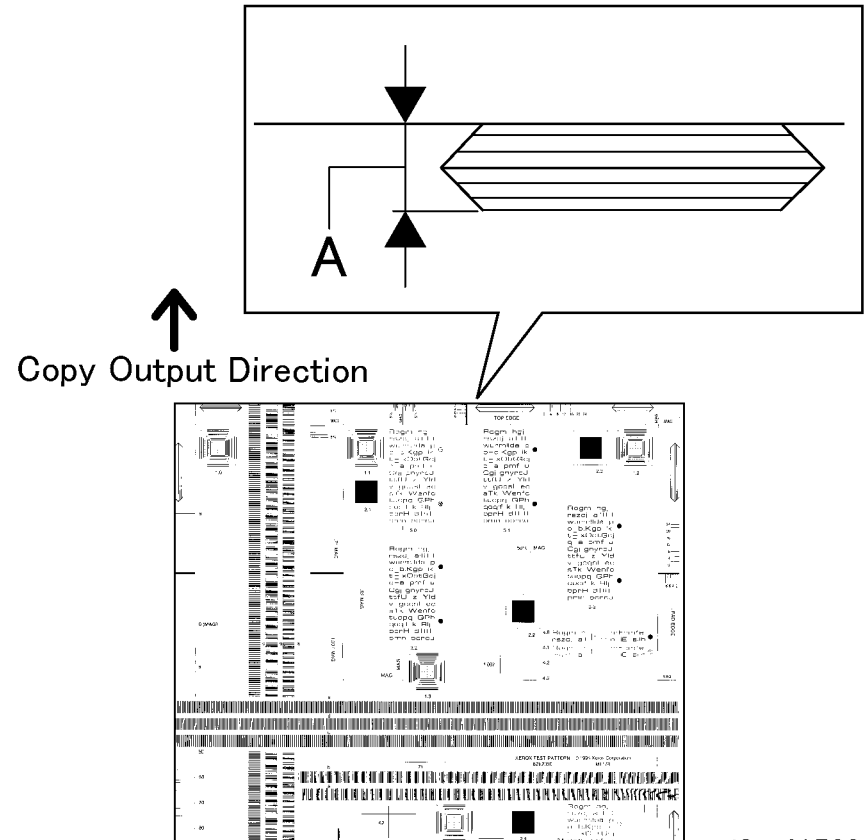

Figure 1 DADF Lead Edge Registration (j0st41563)
2. Measure the Lead Edge (part A of the figure) of the third copy. (Figure 1)